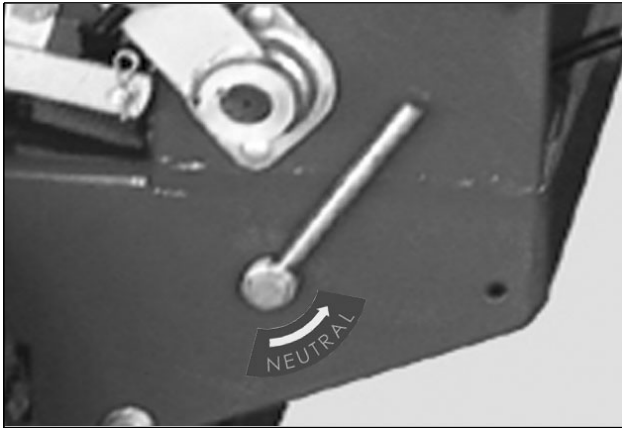

Figure 8
2. Move the neutral lever to the position (figure 8)